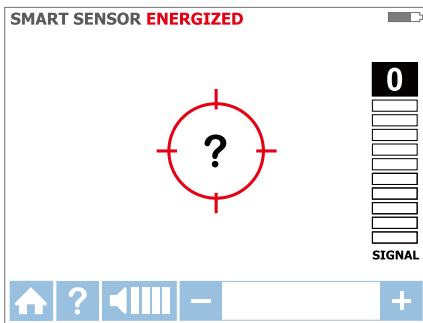

Figure 3.1d: No signal detected
3. Hold the Receiver with the Smart Sensor™ facing the target area. If the screen flashes a "?" in a red target then either no signal is detected or the signal is not adequate enough to display direction. (Figure 3.1d). Move the Smart Sensor™ closer to the target area until the signal is detected and you see a directional arrow. If no signal is detected increase the sensitivity using the "+" button on the Receiver.\*